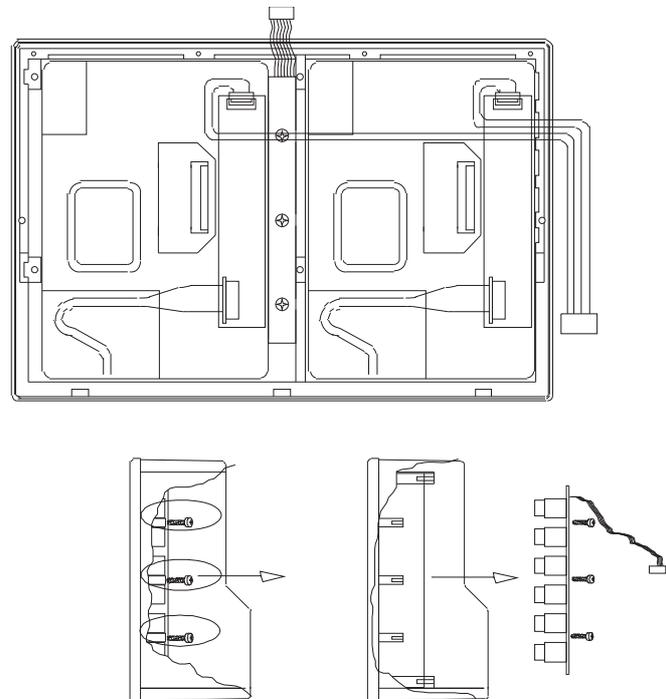

Fig. E 8-6: Removing the switch pcb
9. Remove the fixing screws of the switch pcb and take the board out of the frame (Fig. E 8-6).